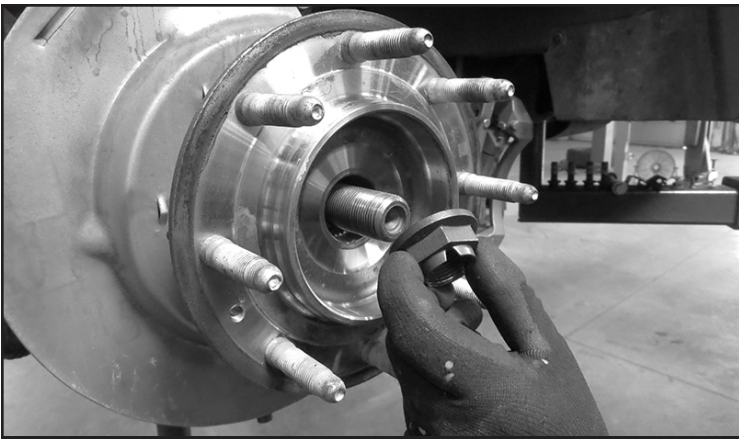

FIGURE 6 - STEP 8
8. Remove axle bearing cover. Then remove the axle nut. Save all parts and hardware for reinstallation. **SEE FIGURE 6**